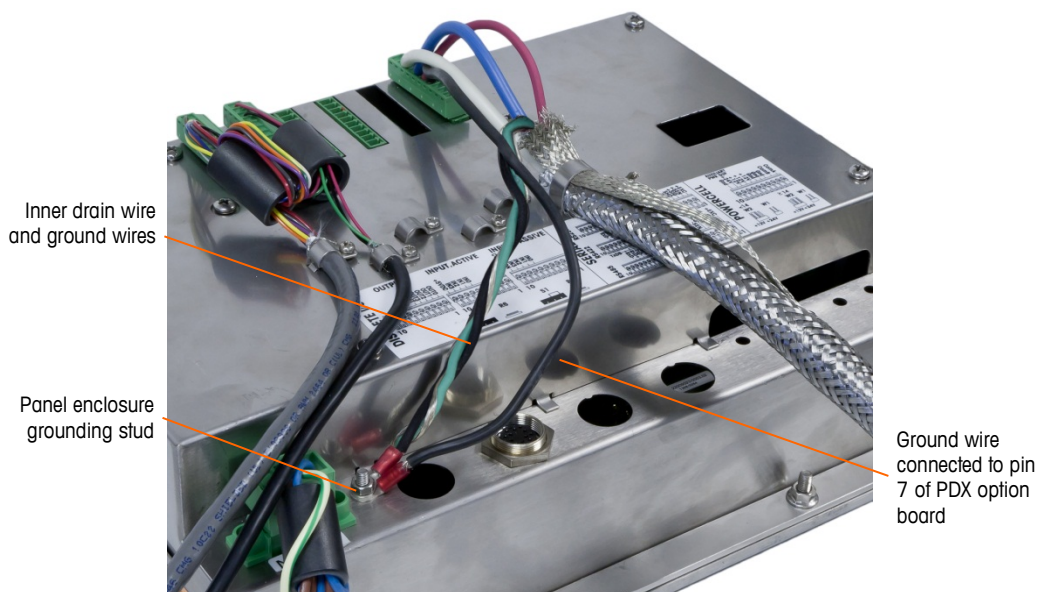

Figure 2-69: Completed POWERCELL PDX Home Run Power Ground Connection, Panel Mount Enclosure
4. Twist the home run cable's inner drain wire together with the black and green ground wires and attach them to the external ground stud, as shown in Figure 2-69.